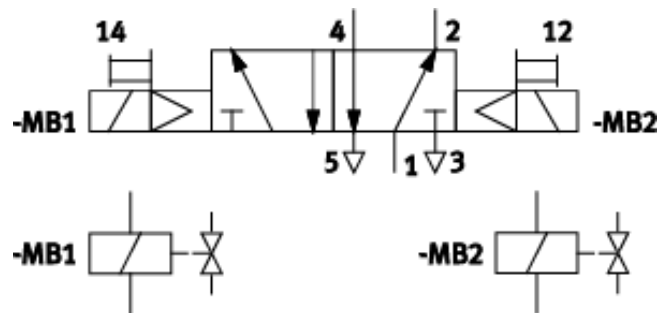

Figure 2.7: A 5/2-Way Double Solenoid Valve and its Symbol.
- **Symbol:** The symbol in Figure 2.7 shows a solenoid on each side of the two squares.